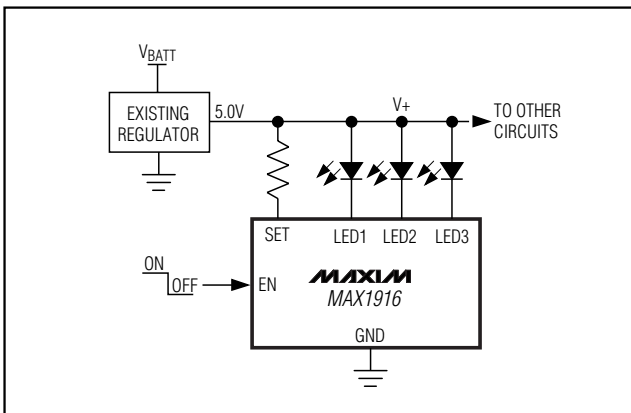

Figure 4. Existing 5V Supply Circuit
- 3) Existing 5V Supply (Figure 4). Use an existing system regulator, such as the MAX684, to provide the required LED voltage and provide power to other circuits. Due to the high forward voltage of white LEDs (3.3V), use a 3.6V to 5.5V regulated supply to provide enough voltage headroom such that the LEDs will maintain constant brightness for any battery voltage. Use the existing regulated supply as  $V_{CTRL}$ .